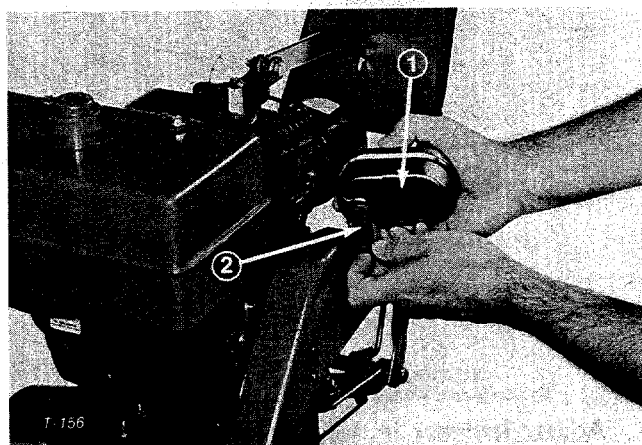

Figure 50
2. Insure screen is installed in spark arrester muffler housing (Fig. 50) and install muffler. Tighten mounting screws securely.